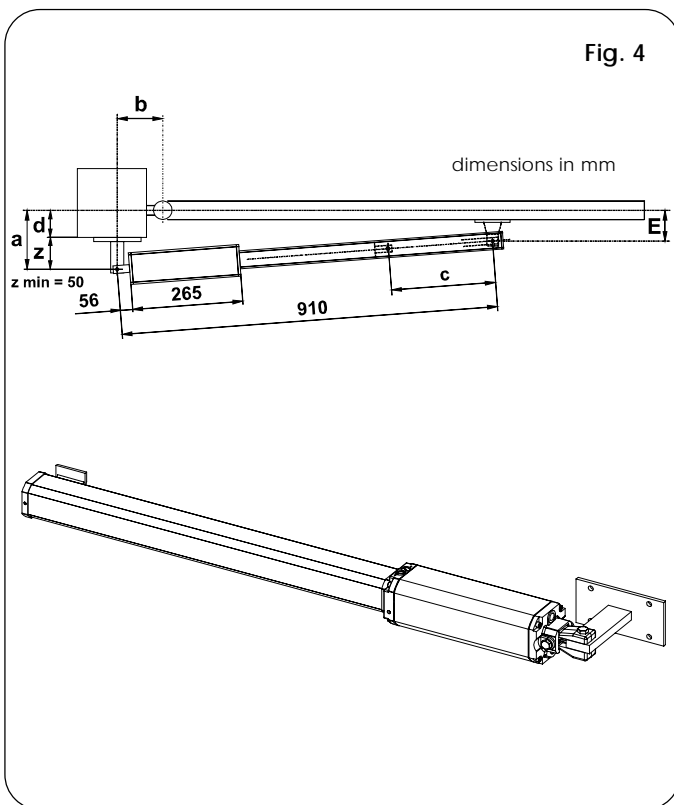

Fig. 4
- for reasons of operator dimensions, the **minimum Z dimension is 50 mm** (Fig. 4);